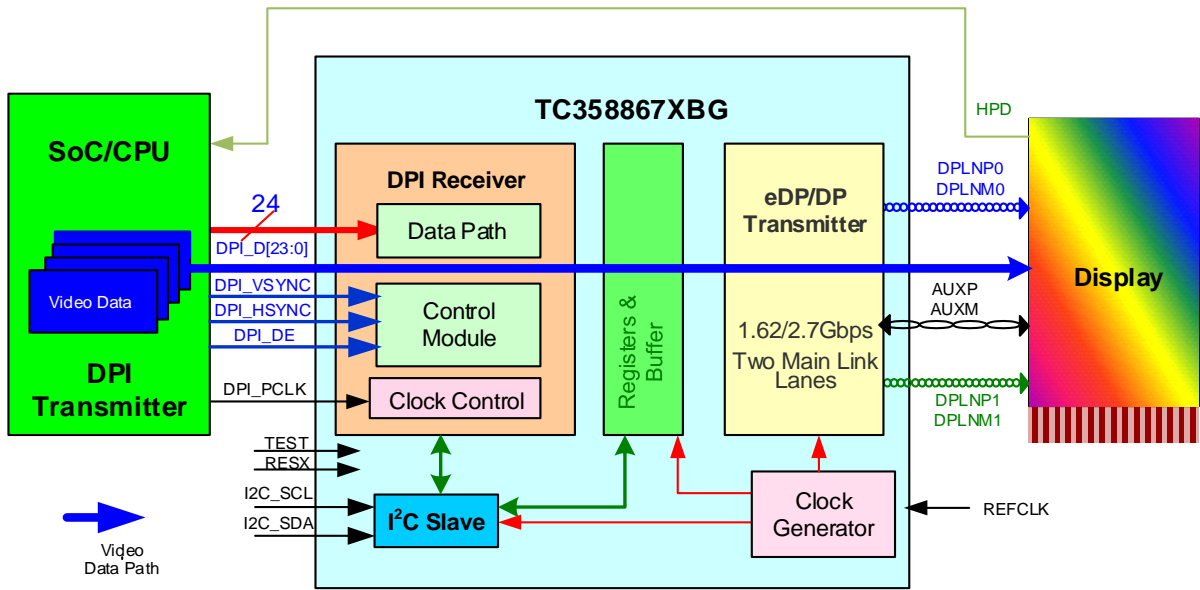

Figure 1.2 System Overview with TC358867XBG in MODE_P21 Configuration
- Mode_P21: A system configuration where TC358867XBG may typically be used is shown in Figure 1.2. This is similar to the Mode_S21 except that the video stream source is from DPI Host. In this configuration, the TC358867XBG can support displays with resolution up to WUXGA (1920×1200) at 24bit, 60 fps.